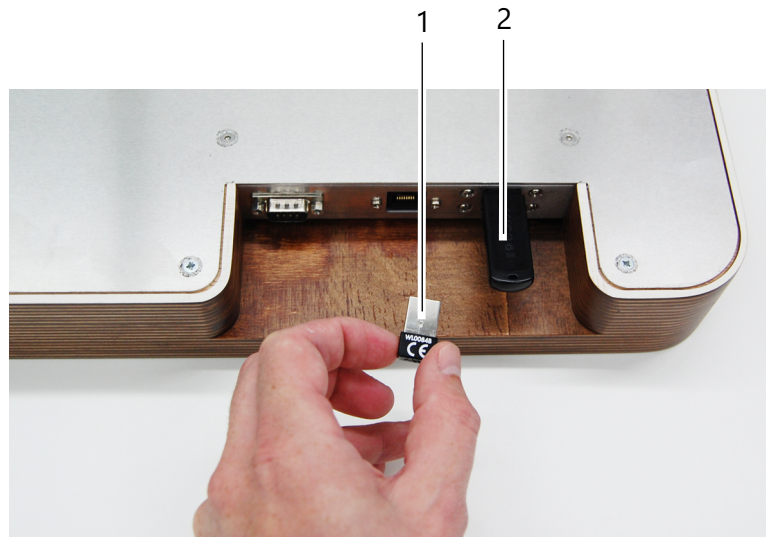

Fig. 11-1: Ports at the underside of the Vissard
- ➔ Wait for at least four seconds and remove the USB stick, fig. 11-1, page 52, item 2.
- ➔ Insert the stick you removed before the update, fig. 11-1, page 52, item 1.